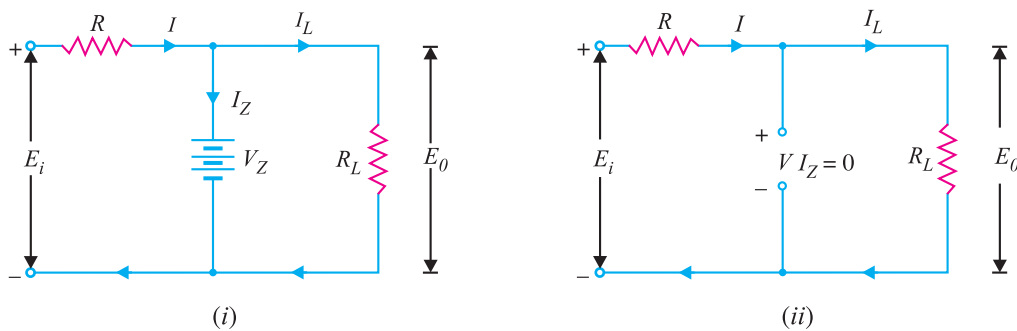

Fig. 6.58
If  $V \geq V_Z$ , the zener diode is in the “on” state and its equivalent model can be substituted as shown in Fig. 6.58 (i). If  $V < V_Z$ , the diode is in the “off” state as shown in Fig. 6.58 (ii).
**(i) On state.** Referring to circuit shown in Fig. 6.58 (i),
**(ii) Off state.** Referring to the circuit shown in Fig. 6.58 (ii),